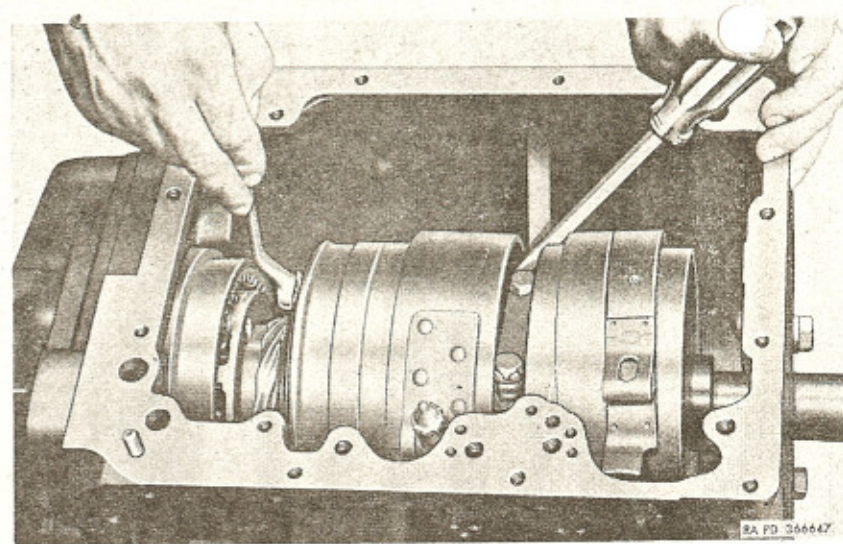

Figure 47. Removing or installing reverse center gear flange bolts (301MG).
a. Using chisel and hammer, bend tabs of three lock straps away from heads of six bolts which attach flange of reverse center gear assembly to rear drum. Wedge large screwdriver into rear planetary unit drive pin hole and against case (fig. 47) to prevent unit turning; then remove only five of the six attaching bolts. Remove and discard lock straps.